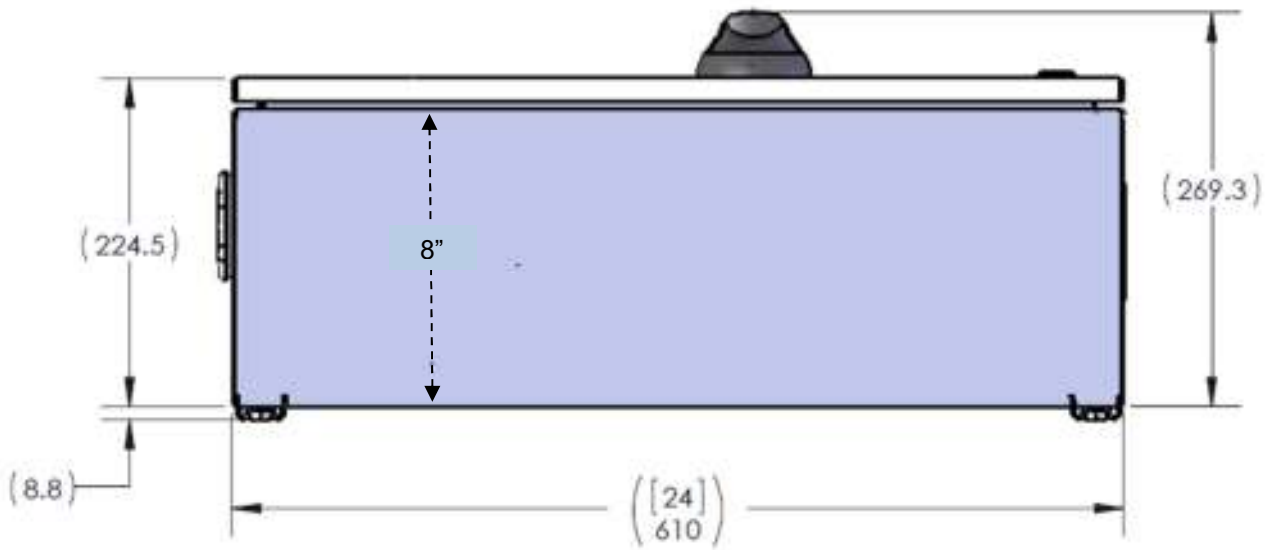

Fig 4.3 Bottom of the CR1500-400 Enclosure
- ✓ Conduit and strain reliefs can be located anywhere suitable on the bottom face of the Combiner as shown in Figure 4.3.